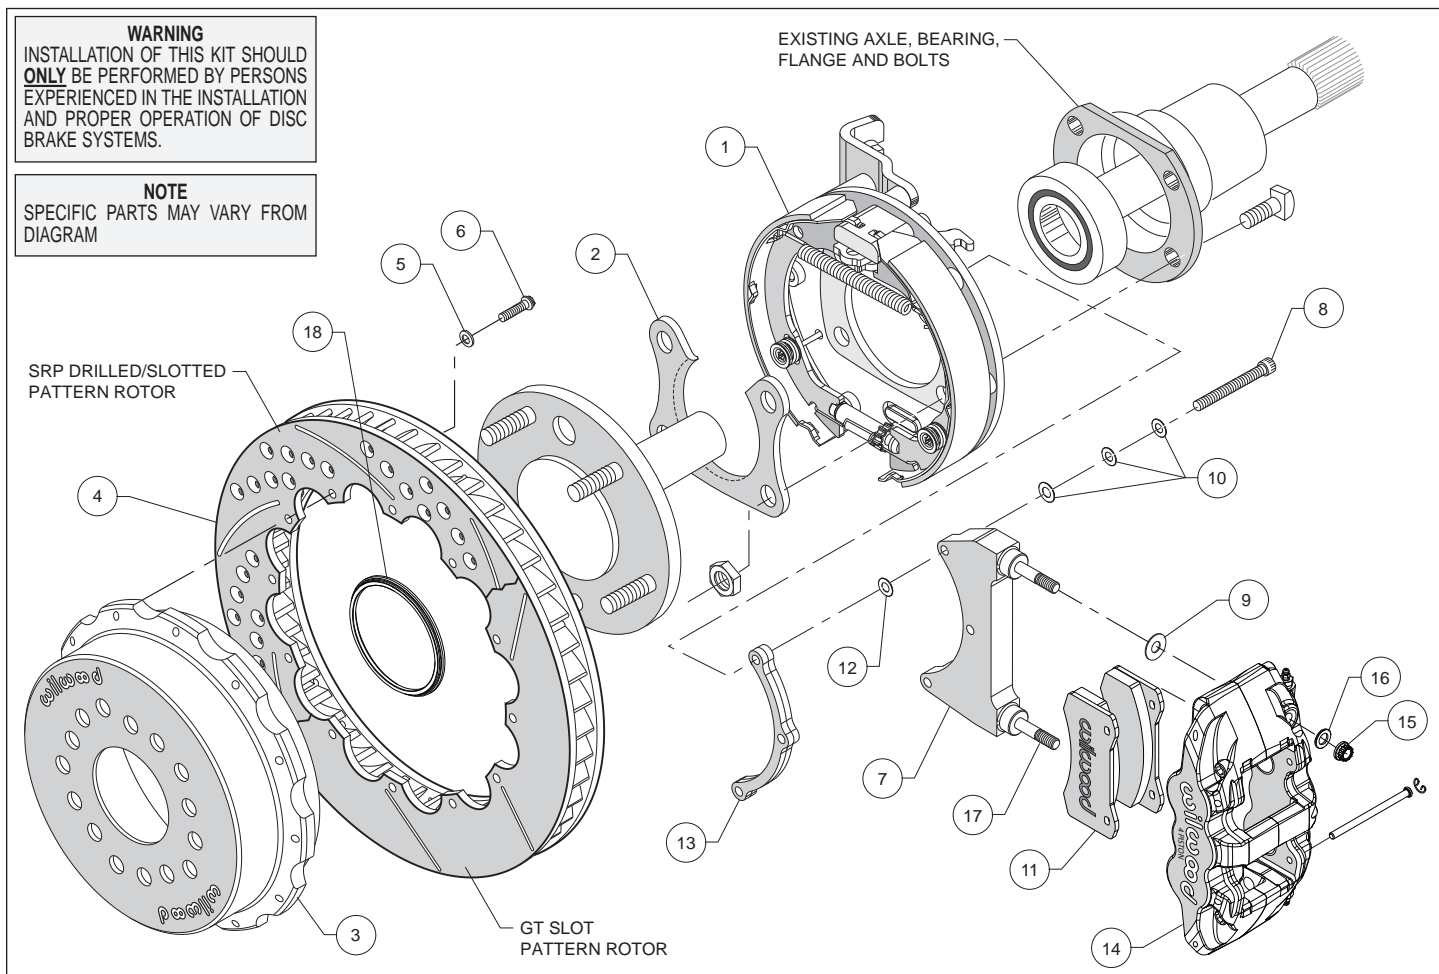

Figure 1. Typical Installation Configuration
- Orient the bracket assembly (1) as shown in Figure 1, and slide it onto the axle flange. Ensure that the bracket assembly backing plate fits flush against the housing flange. Insert the axle shaft into the axle housing.
- Install the bearing retainer (2) with the opening pointing upward and the lip facing inward (toward the bearing), as shown in Figures 1 and 4. Secure using the Original Equipment Manufacturer (OEM) bolts and nuts, Figure 1. Apply red *Loctite*® 271 to the OEM bolt threads and torque to OEM specifications.
- Slide the rotor registration adapter (18) onto the axle register on the axle flange with the smaller O.D. facing toward the rotor/hat (3). Align the correct hole pattern in the hat with the stud pattern on the axle flange. **NOTE:** Some OEM and aftermarket axles come with stud sizes larger than 0.50" diameter. Verify stud size and have a qualified machine shop drill the hats to the correct size, if necessary. Slide the hat/rotor assembly (3 and 4) over the wheel studs covering the bracket kit assembly (1) and against the axle flange face. Check to be sure the hat seats squarely against the hub. Install three lug nuts (finger tighten) to keep the rotor/hat assembly in place while continuing with the installation.
- NOTE:** Please reference the caution statement at the beginning of the assembly instructions. The caliper mounting bracket assembly (7) should be installed first with clean, dry threads on the mounting bolts (8). Install the bracket from the rear side of the bracket kit assembly (1) by sliding bolt (8) through three flat washers (10), bracket (7), shim washer (12) and finally through the spacer (13), see Figure 1. **NOTE:** End of bolt should not exceed inside face of insert. The bracket must tighten squarely against the back side of the bracket kit assembly (1). Inspect for interference from casting irregularities, machining ridges, burrs, etc. Use one thin shim (12) between the bracket (7) and spacer (13) during initial trial fitting.
- Lubricate caliper mounting studs and nuts with lightweight oil. Install one shim (9) over each pre-installed stud (17) on the radial mount bracket (7). Slide the caliper (14) in place over the studs and rotor, then install the washer (16) and lock nut (15) to hold the caliper in place. The caliper bleed screws should be pointing up. Snug the lock nuts (15) and check that the rotor (4) is centered in the caliper (14). Add or subtract .015" shims (12) as necessary between the caliper mounting bracket (7) and the spacer (13) to center the caliper (9).
- Remove the two pad retaining pins from the caliper (14) by carefully popping out the pin retaining clips and sliding out the pins. Insert the brake pads (11) into the caliper from the bottom, Figure 1. With the friction material facing the rotor, secure the brake pads in place with the pad retaining pins and clips. Reinstall the caliper onto the caliper mounting bracket and temporarily tighten the lock nuts. Check that the top of the brake pad is flush with the outside diameter of the rotor. If not, adjust by adding or subtracting shims (9) between the caliper and the bracket.
- Adjust the parking brake shoes outward (using a drum shoe adjustment tool available at your local auto parts store) while spinning the hat (3) until a slight drag is felt against the hat/drum. Remove the lug nuts that were holding the hat/rotor in place. Install the wheel and lug nuts. Check to see that the wheel rotates freely without interference.
- Once all clearances have been checked, remove the wheel, caliper, hat/rotor from the bracket kit assembly (1). Secure the caliper mounting bracket (7) to the bracket kit assembly (1) using red *Loctite*® 271. Torque bolts (8) to 180 in-lb. Reinstall the hat/rotor assembly and again use lug nuts to hold it in place. Reinstall the caliper, torque the caliper nuts (15) to 47 ft-lb.
- NOTE:** Clevis and cable kits which attach to the parking brake assembly are not included in the Wilwood parking brake kit. Wilwood offers a generic style parking brake cable kit, P/N 330-9371 for this application which can be ordered separately from your local Wilwood dealer or by calling Wilwood customer service at (805) 388-1188.